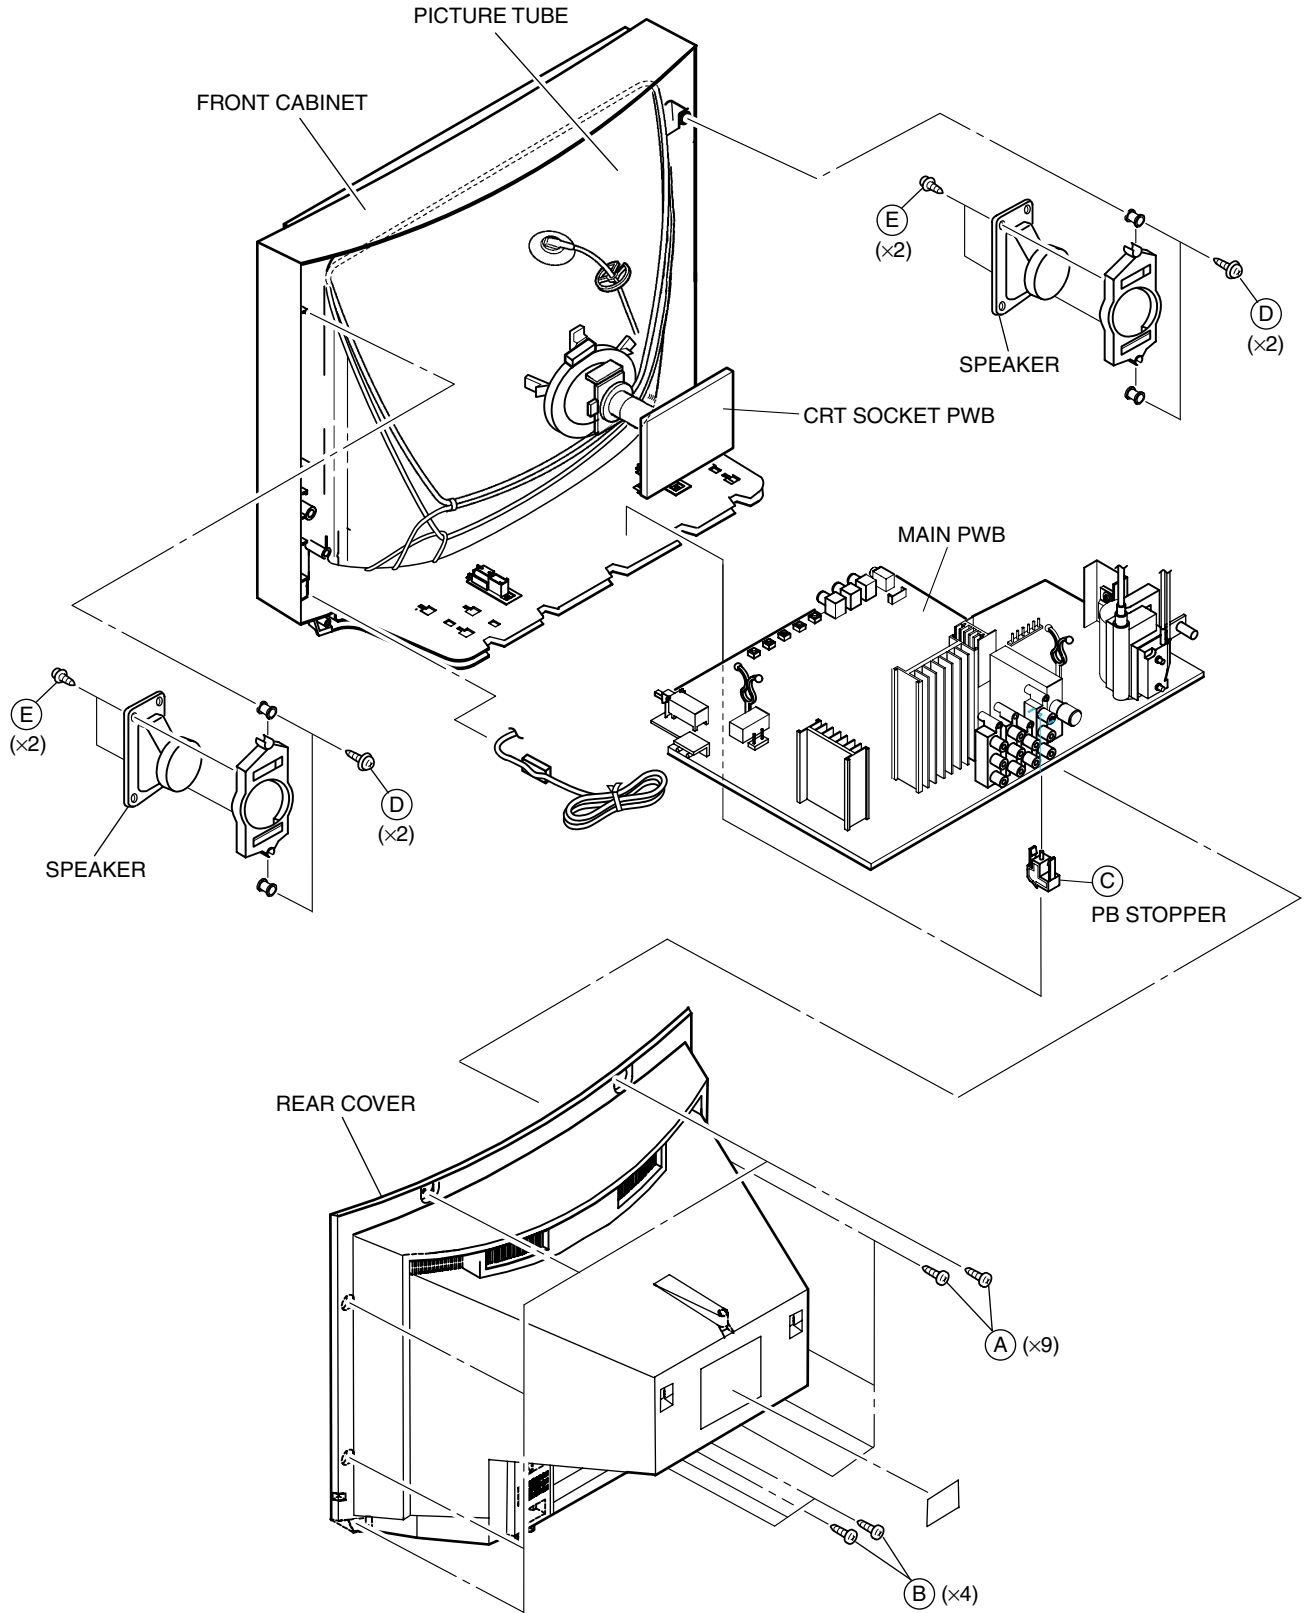

Fig.1
2. Remove the 9 screws marked (A) and 4 screws marked (B) as shown in Fig.1.
1. Remove the 2 screws marked (D) and 2 screws marked (E) as shown in Fig.1.